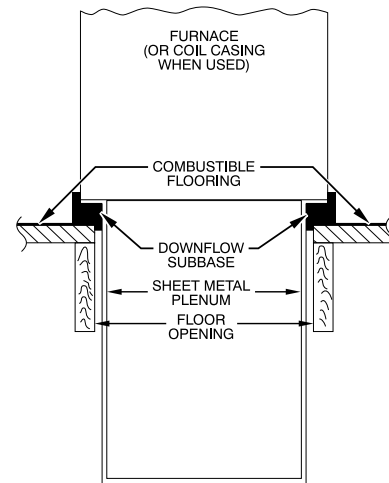
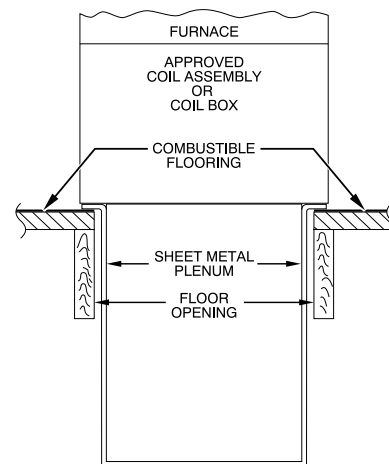

Fig. 11 – Furnace, Plenum, and Subbase Installed on a Combustible Floor
Fig. 12 – Furnace, Plenum, and Coil Assembly or Coil Box Installed on a Combustible Floor
4. If downflow subbase, KGASB is used, install as shown. (See Fig. 11). If Coil Assembly Part No. CPVP, CAPMP or CNPVP Coil Box Part No. KCAKC is used, install as shown. (See Fig. 12).